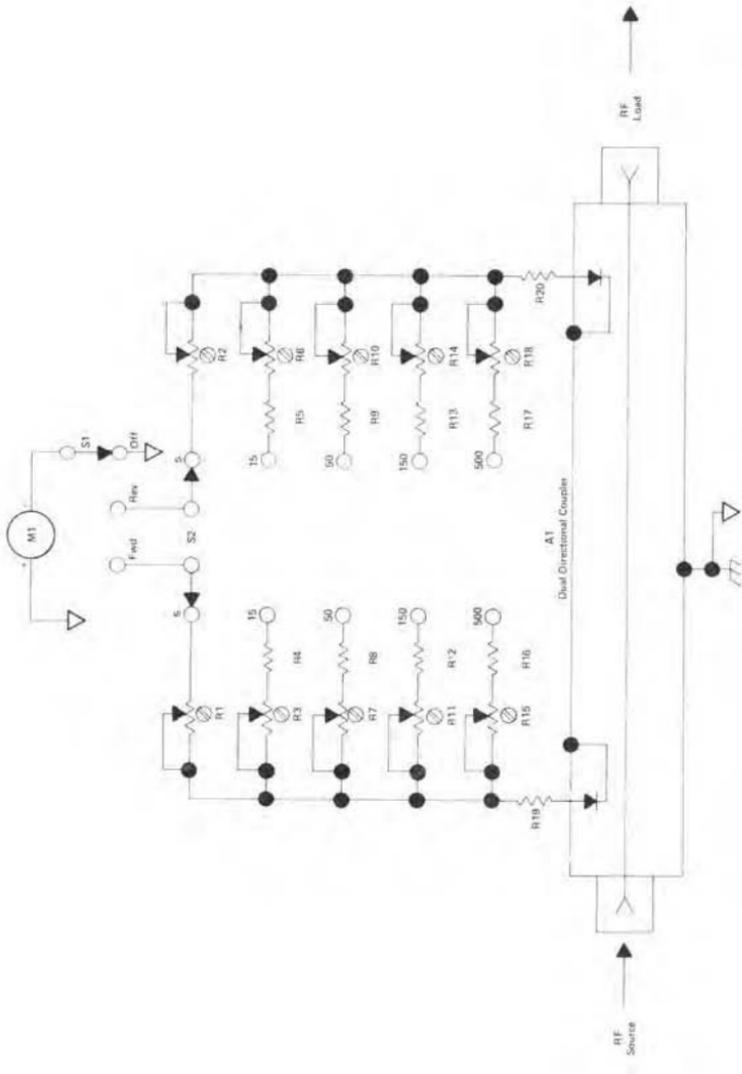

Figure 3-1 — Model 44 Broad Band RF Watt Meter Schematic
3.01 The Model 44 RF Watt Meter is made up of two major sections. Refer to the schematic diagram in Figure 3-1 for this description.